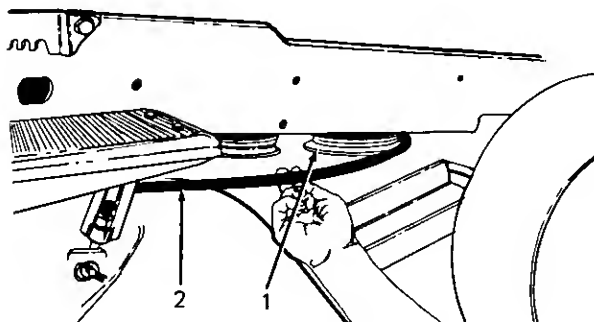

Figure 51.
3. Install spindle belt by slipping belt over electric PTO pulley. (See Figure 51.)